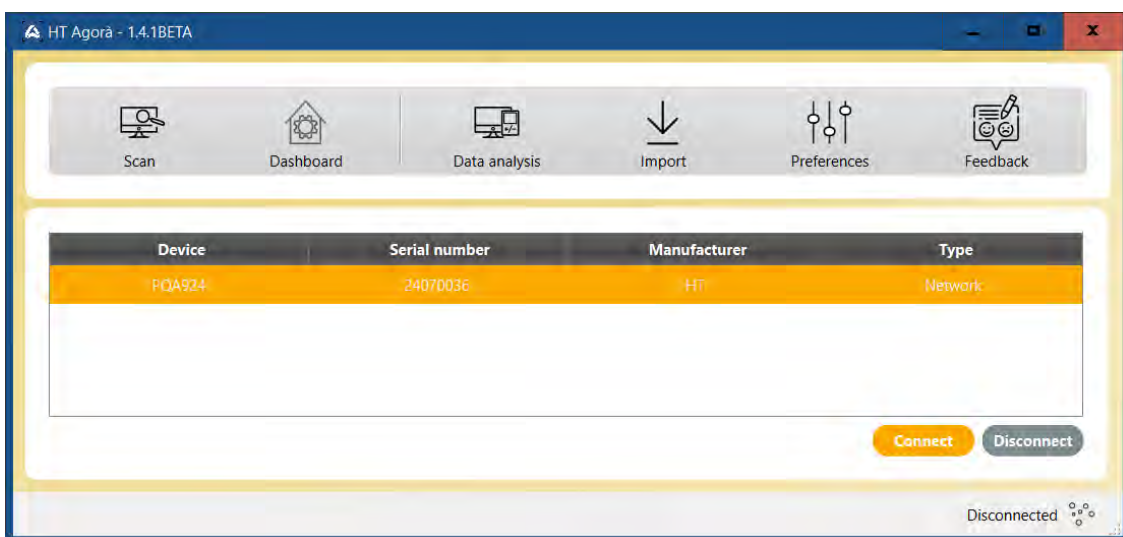

Fig. 86: Connecting the instrument via the HTAgorà software and Ethernet connection
4. Click on **"Scan"** to detect the instrument. The row "PQA924" and type of connection "NETWORK" are shown as indicated in the Fig. 86